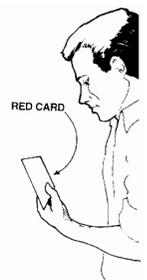

FIGURE 12
- Locate switch S1 on the mother board, Fig. 12 (also refer to Diagram 7, pg. 32). Assure switch S1-8 is in the on position.